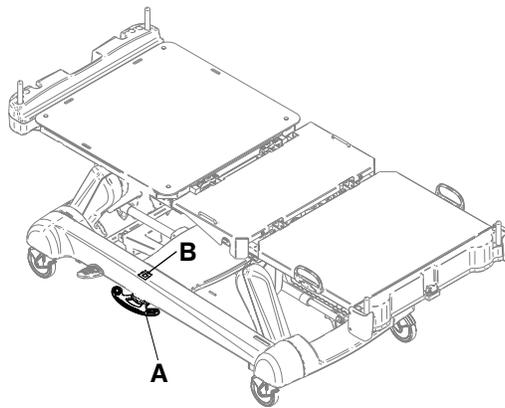

Figure 6: Brake pedal window
2. Fully depress the brake pedal (A) until **Brake** appears in the brake pedal window (B) (Figure 6 on page 19).
To release the manual brakes, depress the pedal until **Neutral** or **Drive** appears in the brake pedal window (B) (Figure 6 on page 19).